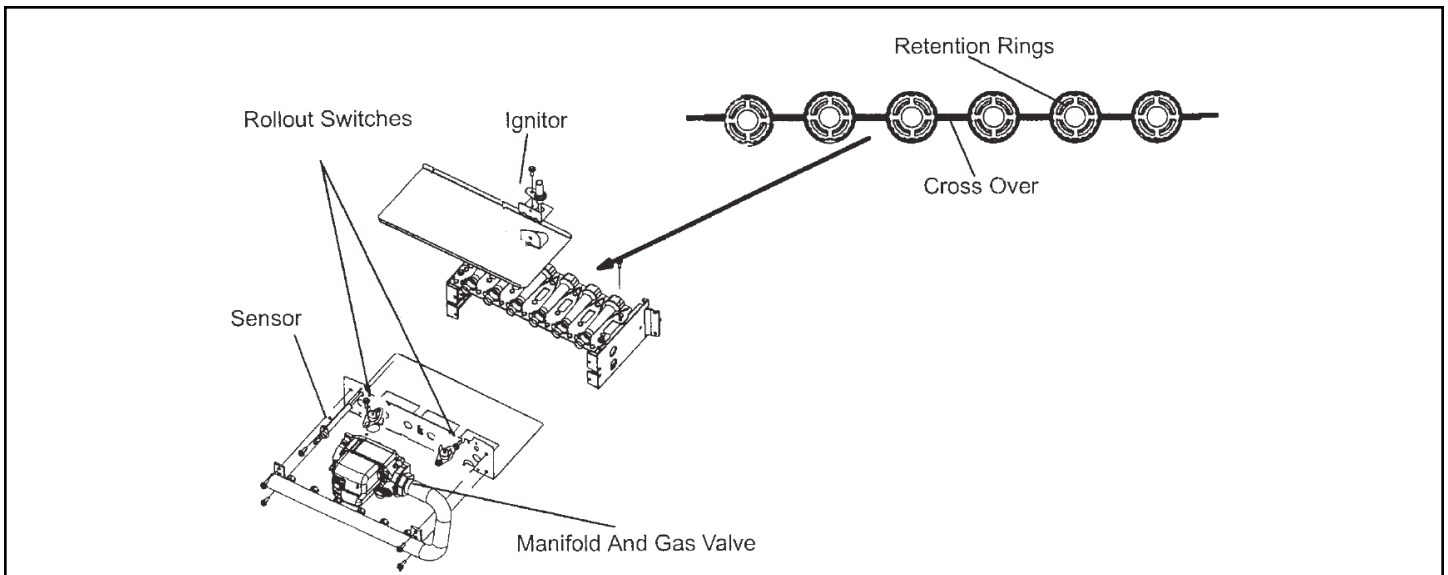

Figure 36. Burner Assembly Removal
4. To clean burners, run a vacuum cleaner with a soft brush attachment over the face of burners. Visually inspect inside the burners and crossovers for any blockage caused by foreign matter. Remove any blockage. Figure 36 shows burner detail.